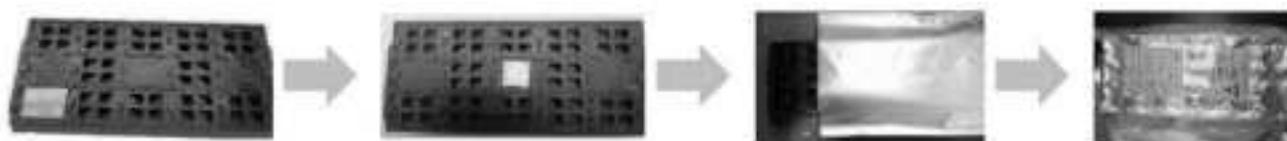

Figure 4-5.Stacking of Trays
Refer to Figure 4-5 for stacking of trays. Plastic trays(③) are stacked into 11 layers. Put Activated Clay(⑤) at the top and bottom of tray (1 pcs for each), and then put 11 trays into one Foil bag(④). Put the Wet sensitive identification card(⑦) into the Foil bag(④). The packaging capacity of Foil bag(④) is: $15 \times 10 = 150$ sets of SOM.